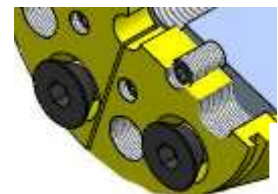

Fig. 4
NB! The pin screws (26c) are already position fixed to the inner position to prevent undesirable effect of expansion on the inner cone sleeves (27) while inserting the Bondura bolt (see Fig.4). Do not dismount the pin screw (26c) or inner cone (27), before inserting the bolt.